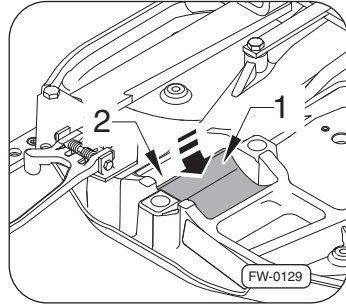

Fig. 43 · Insert bearing inserts
2. Apply a dot of glue or silicon to the new bearing inserts Fig. 43 on the underside of the bearing shell —arrow 2—.